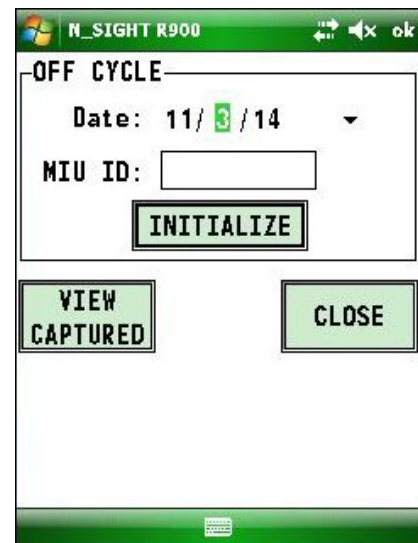

Figure 7.23 Initialize Device Screen
- 2 The Initialize Device screen appears if you are not connected or you are not in range of your R900 BCT. Click **INITIALIZE**. See Figure 7.23.
The date you selected on the Initialize Device screen is highlighted after off-cycle data is captured. See Figure 7.23 on page 7-16.